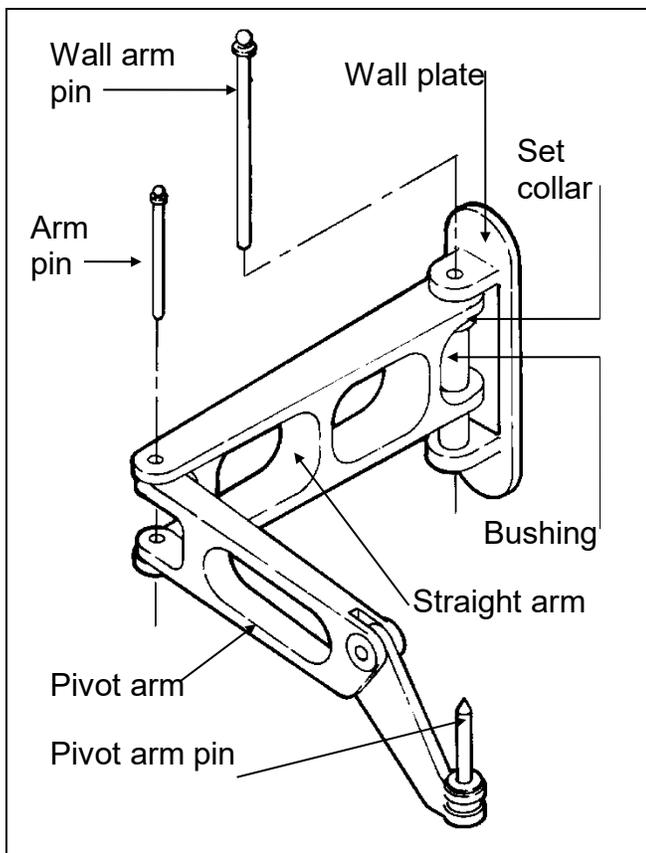

Figure 1-1 Installing the Swing Arm on the Wall Plate
- e. Slide the wall arm pin through the hinge brackets and bushing. See **Figure 1-1.**
- b. Slide the arm pin through the holes in the straight-arm and pivot arm. (See **Figure 1-1.**)